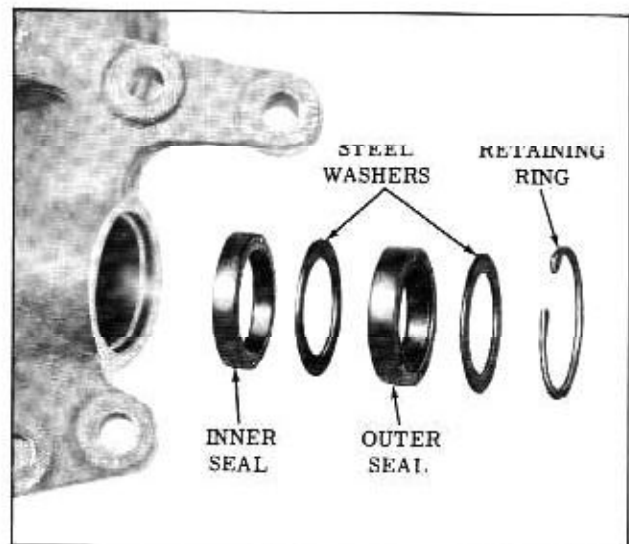

Fig. 4-92 Pitman Shaft Seals
1. If pitman shaft seals ONLY are to be replaced, remove the seal retaining ring and outer steel washer, then pry out the outer seal. Remove the inner steel washer, then pry out the inner seal. (Fig. 4-92)